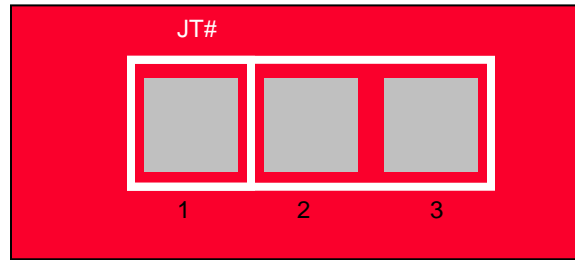

Figure 3: Jumper Terminal Pad layout
3.3 Jumper Terminal (JT) configurations
There are 27 configurable Jumper Terminals (JT) on the Finboard. See Figure 3. The JTs are used to customize the electrical functionality of the board. Each JT is made of a three position 0402 resistor pad array and can be populated with a user's resistor for custom configuration purposes.